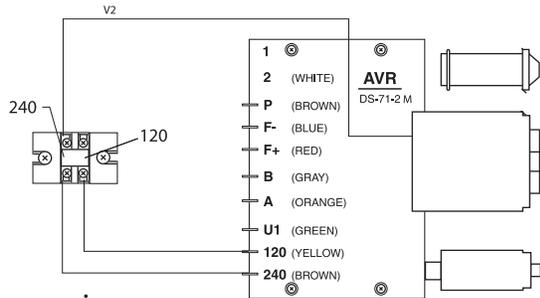

Figure 29: Control Terminal Board, 120/240 Volt Output
- a. Connect the control terminal board for 240 volts (Figure 29).